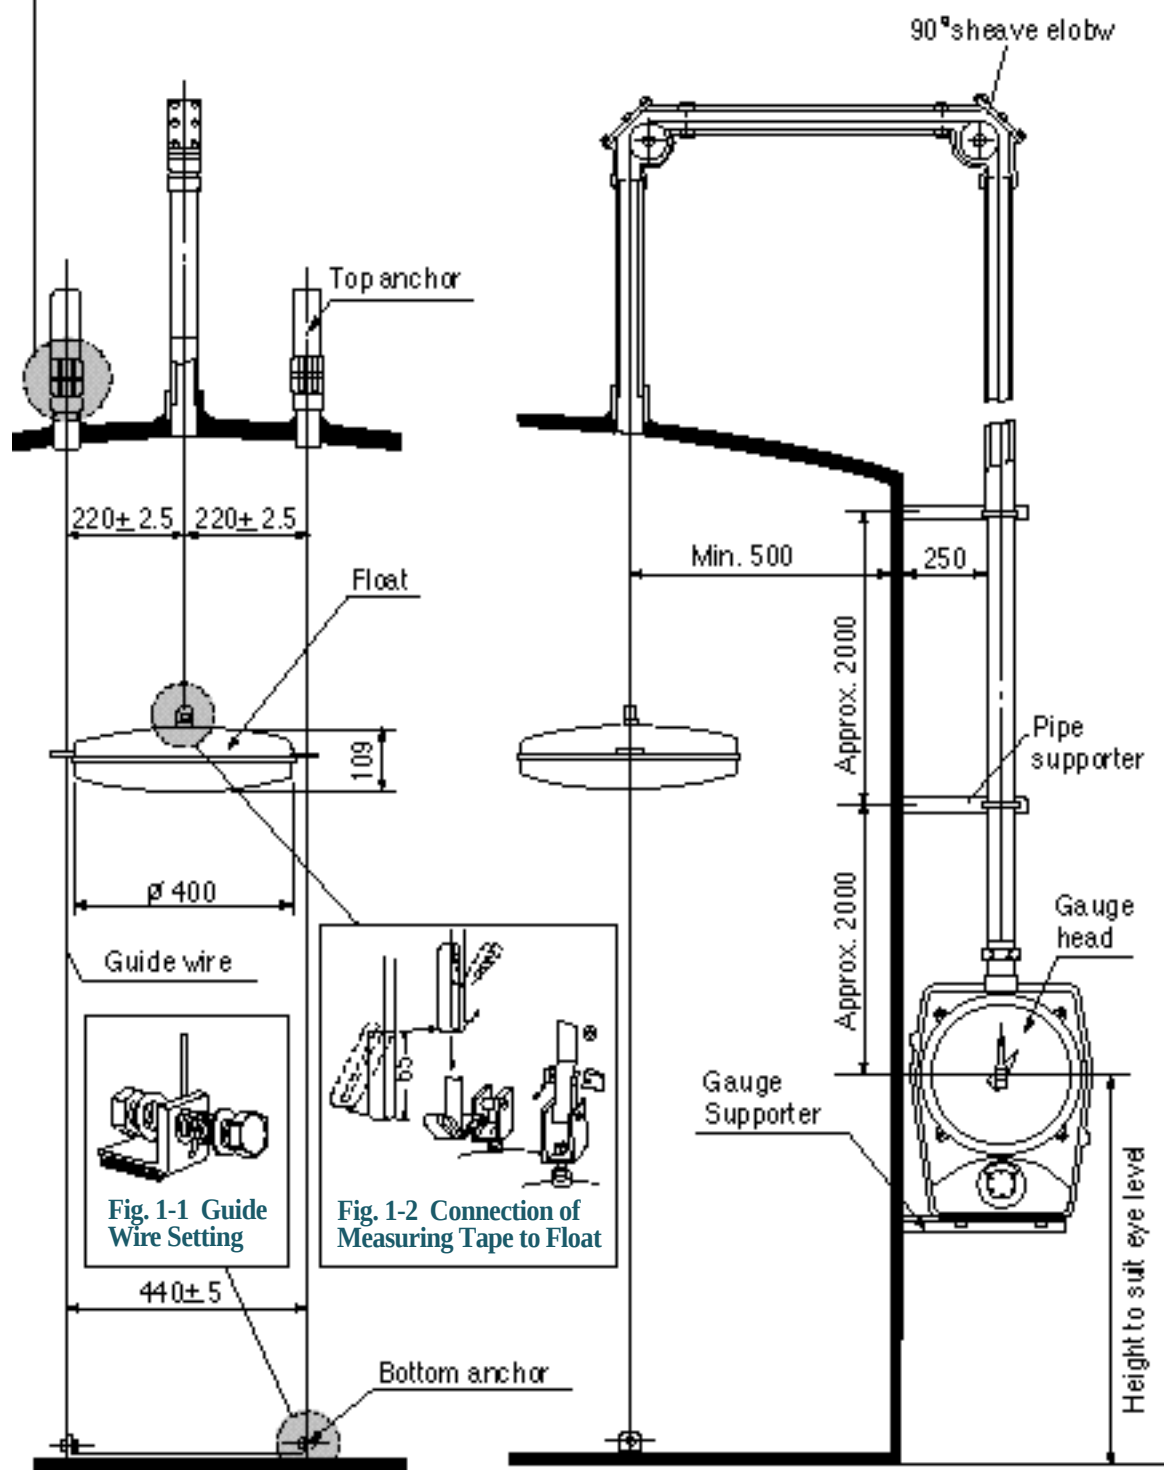

Fig. 1 Installation Form of Series HLT-1100 Tank Level Gauge (for cone roof tank)
For installing the tank level gauge in its standard form, arrange the component units as shown in Figs. 1 and 2.
Refer to Figs. 1 and 2.
2) Guide Wire Setting (Refer to Fig. 1)
In case of cone roof tank (Refer to Fig.1)
- (3) Again in the gauge head, turn the tape drum in the direction indicated by arrow in Fig. 1 to tense the measuring tape.
- (4) The measuring tape may be severely vibrated by surges and disengaged from the sprocket pins, resulting in deviation of level reading.